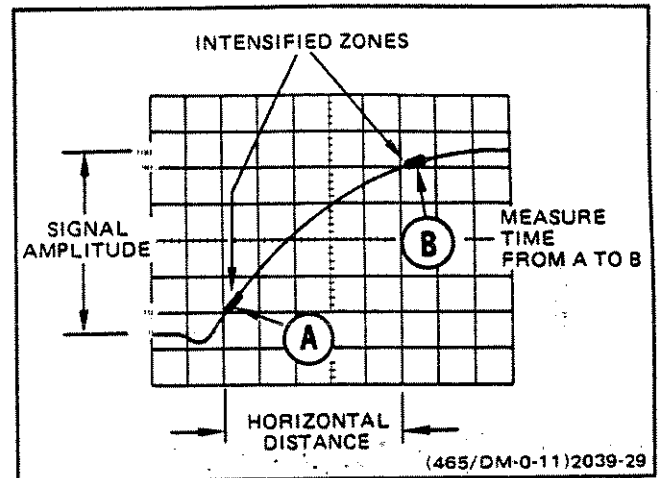

Figure 31. Rise time.
3. Vertically position the trace so that the zero reference of the waveform just touches the 0% graticule line and the top of the waveform touches the 100% graticule line (see Figure 31).
4. Adjust the DELAY TIME POSITION control to move the reference point to the 10% graticule line (see Figure 31, Point A).
5. Adjust the Δ TIME control to move the time measurement point to the 90% graticule line (see Figure 31, Point B).